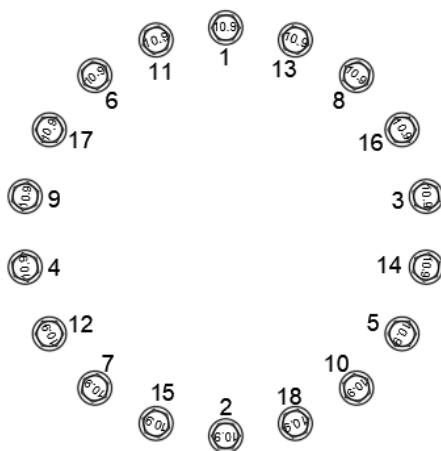

Figure 3-8
1. When crane pedestal bolts are replaced, torque must be applied in the following pattern shown in Figure 3-8.